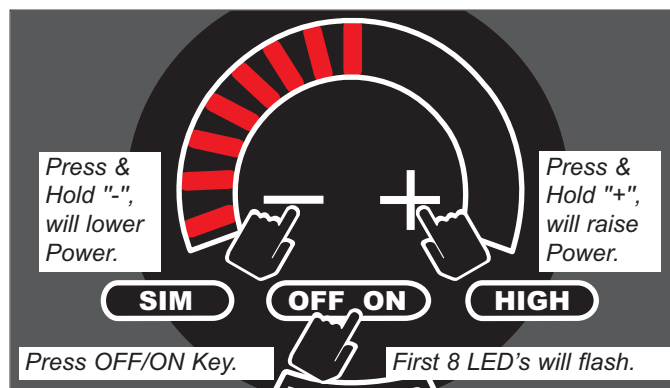

Figure 3-2. Operation Mode.
**Operation Mode:** Press the OFF/ON key to enable the corresponding element. The left side 8 LED's of the U-Shaped Bar Graph light up and blink on the corresponding Control Zone (See Figure 3-2)
Pressing the "-" key, activates 8 LEDs with a power level equivalent to 5. Pressing and holding the "-" key will lower the power level by 1 for every .5 seconds the key is depressed (See Figure 3-2).
Pressing the "+" key, activates 8 LEDs with a power level equivalent to 5. Pressing and holding the "+" key will raise the power level by 1 for every .5 seconds the key is depressed (See Figure 3-2).